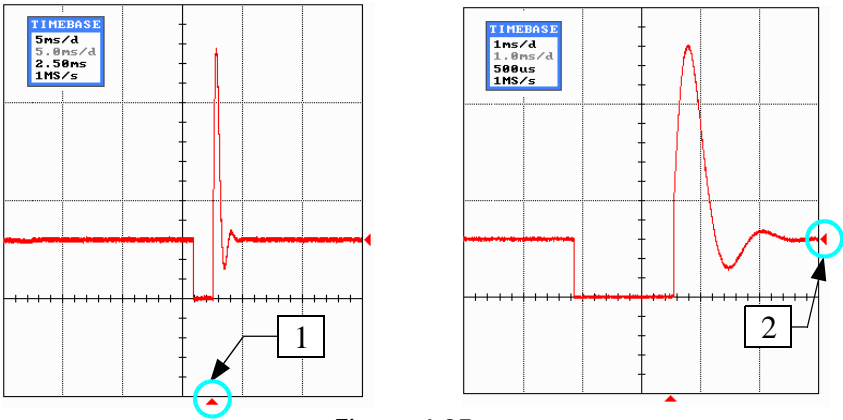
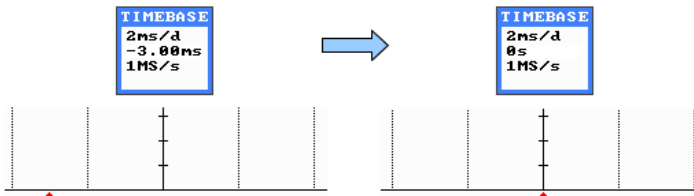

Figure 4.25
Figure 4.26
On the Figure 4.25 you can see the same signal in various time resolution.
Actual pretrigger value, e.g. signal display length before the starting condition (see Appendix B) is displayed here. You can set the pretrigger using either the left/right keys or by moving your finger on the touchscreen left or right. The current pretrigger setting is marked by an arrow on the bottom of the screen (Figure 4.25 - 1). You can set the pretrigger in the central (zero) position by pressing F4 key (Figure 4.26). *Sampling frequency (4)*
Here you can see the current trigger value, e.g. the value which the signal has to exceed for the measuring to start. You can set this value using the up/down keys or by swiping your finger up or down on the screen. The current trigger value is also displayed graphically by an arrow on the right side of the screen (Figure 4.25). It is important to set this value properly for the measuring to start in the modes NORMAL and SINGLE!